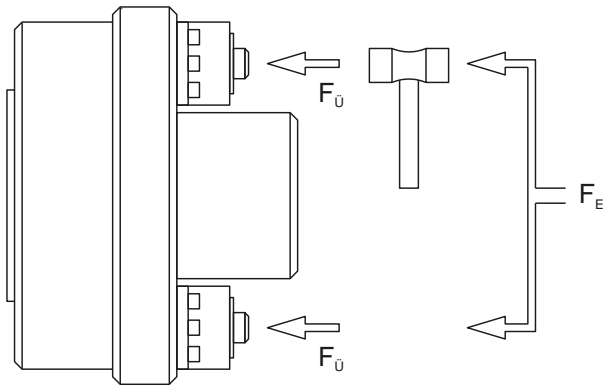

Fig. 11
Re-engagement takes place by placing axial pressure on the bolt end of each overload element (2). Tap gently all around with a plastic hammer, see Fig. 11, so that the bolts (2.2.1) are inserted evenly.